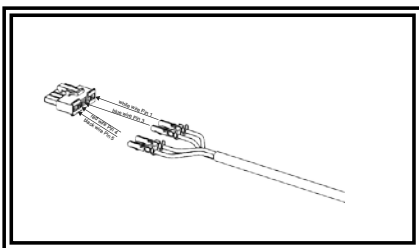

FIGURE 2
5. Turn pins crimp side up, and insert pins into connector as shown in Figure 2.